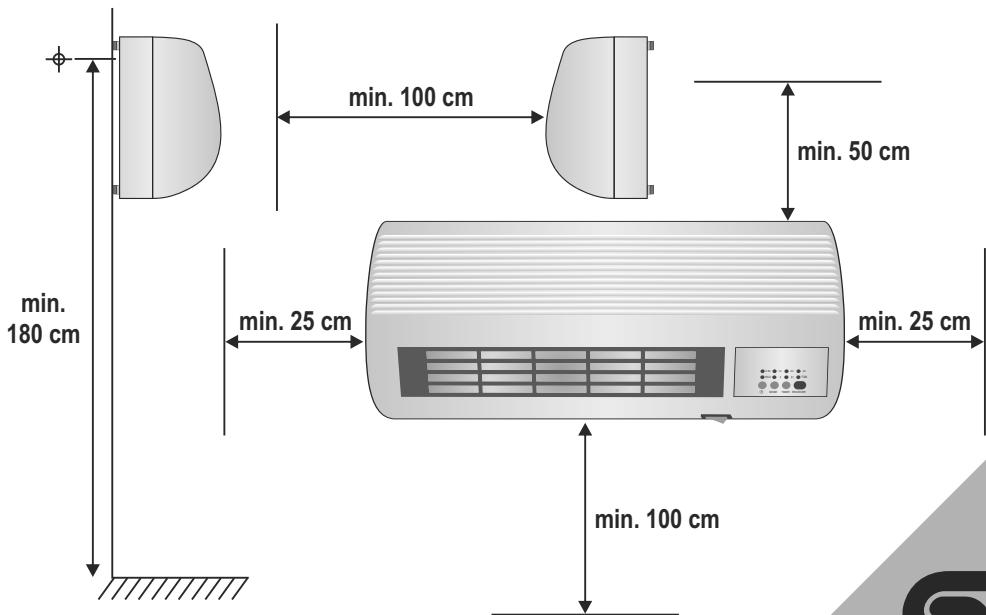

figure 2. • 2. ábra • 2. obraz • figura 2. • 2. skica • 2. skica • 2. obrázek • rys. 2. • 2. slika
3. The free flow of warm air must be ensured for proper operation, therefore, please select the location for wall mounting according to **Figure 2**. Do not locate the appliance directly below a wall outlet.
5. Never locate the unit directly in corners and observe the minimum mounting distances indicated in Figure 2. Always observe the health and safety regulations valid in the country of use.